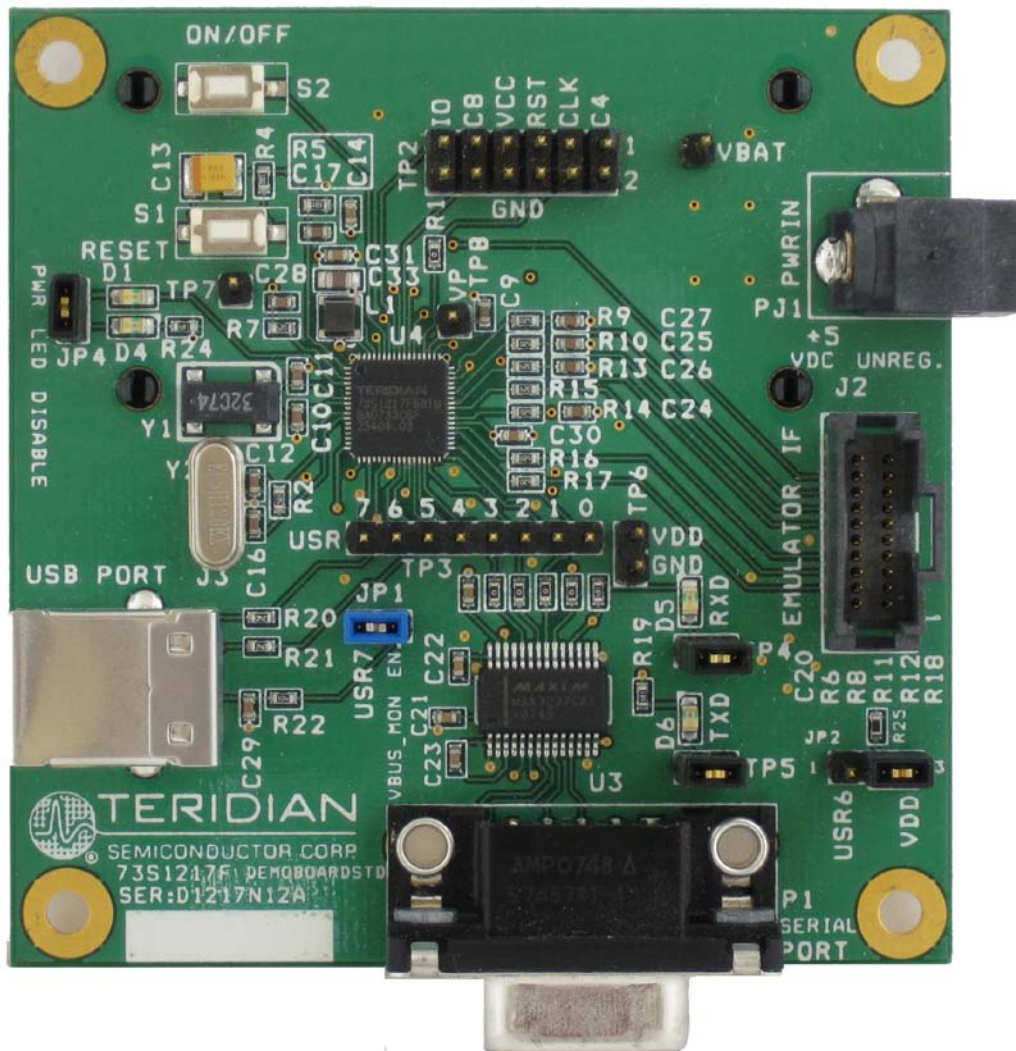

Figure 1: 73S1217F Evaluation Board Lite
- 73S1217F Evaluation Board Lite: 4-layer, square PWB as shown in Figure 1, containing the 73S1217F with the preloaded turnkey USB CCID application.
The 73S1217F Evaluation Board Lite (see Figure 1) includes the following: